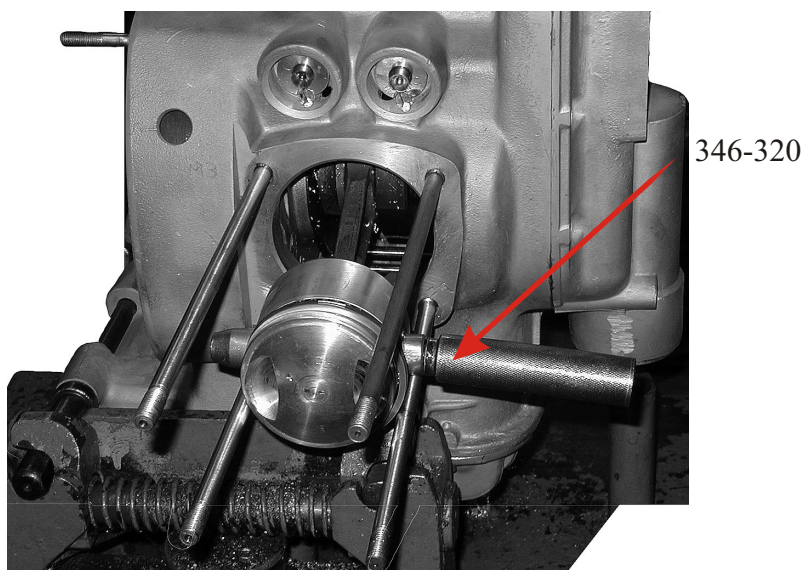

Fig. 5 Piston pin mounting
- Match the hole in the piston and the hole in the connecting rod small end and press the piston pin in place by hand (Fig. 5).